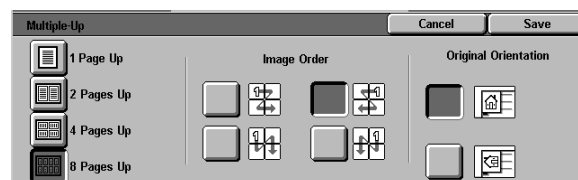

Figure 8: 4 or 8 Pages Up detail screen
- **4 Pages Up** (Figure 8)
- **8 Pages Up** (Figure 8)